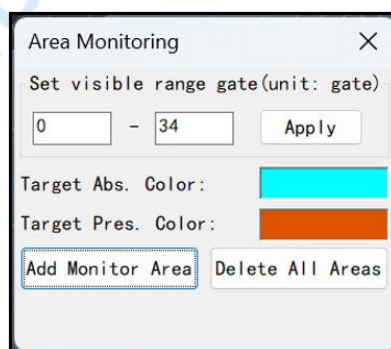

Figure 4-9 Area Monitoring window
Step 2: Click the **Area Monitoring** button, a new window will appear, as shown in Figure 4-9, descriptions of the window are as follows: